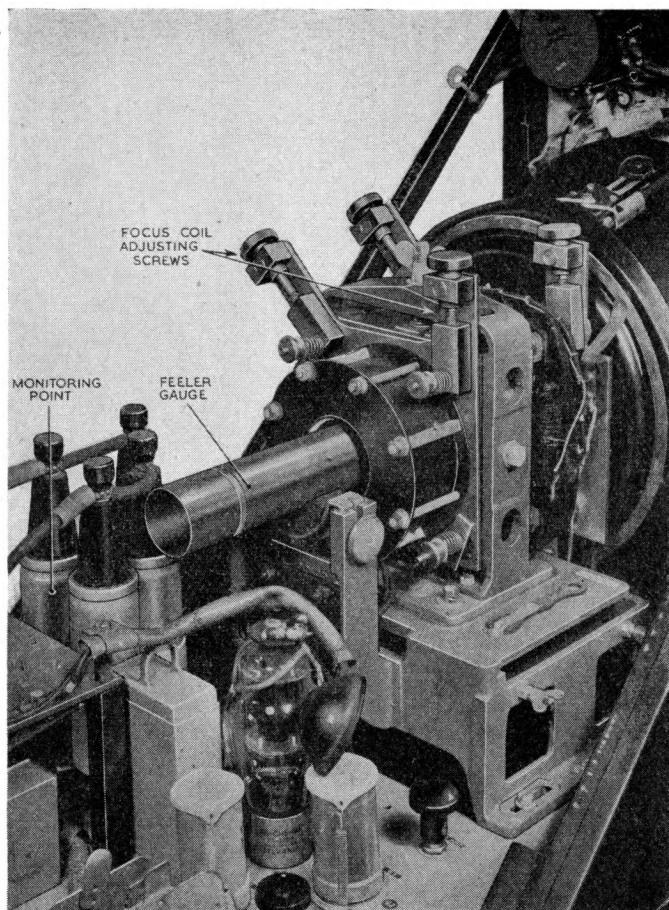

Fig. 32. Indicating unit Type 115 : interior
- (2) Switch on the console with the control desk ON-OFF switch, and wait for 30 seconds.
- (3) Turn the BRIGHTNESS control (indicating unit Type 115 front panel) until an unfocused spot appears in the centre of the CRT. Mark the position of the spot on the screen.
- (4) Switch off the console and replace the fuse in power unit Type 379. Be careful to fit the fuse carrier the right way up as it is possible to interchange the fuses.
- (5) Switch on the console and adjust the focus coil using the two screws (*fig. 32*). The adjustment must be made so that as the FOCUS control is rotated backwards and forwards, the spot expands and contracts about a fixed point on the screen. This point will be near to that marked in (3).
- (6) Adjust the FOCUS control to give a sharply focused spot and switch off.
115. Connect the output from the cathode of V3 in indicating unit Type 115 to the Y-plate of an oscilloscope Type 10 and a picture of noise and signals should be displayed. A convenient monitoring point is the metal can of either of the two high-voltage condensers at the right of the CRT (*fig. 32*).